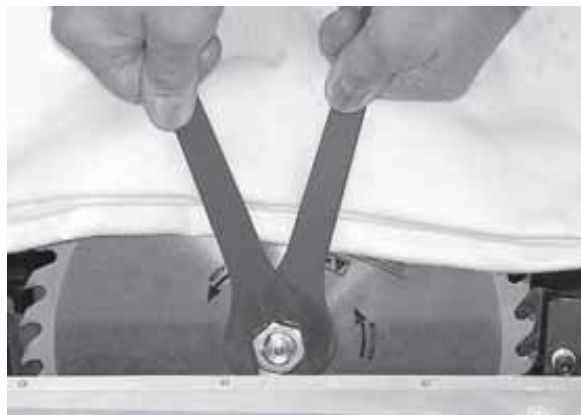

Fig.21
**NOTE: From this point, take great care to avoid contact with the tips of the saw blade, preferably place a thick cloth over the teeth, as shown in Fig 21.**